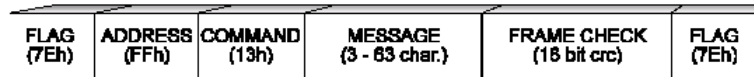

Figure 6-1. HDLC Frame for V.25 bis Messages
In HDLC operation mode, V.25 bis command and response messages are contained in standard HDLC Unnumbered Information (UI) frames (Figure 6-1). Each field consists of one or more eight bit octets. The eighth bit (parity bit) of each octet in the Message field is ignored by the UTA220.